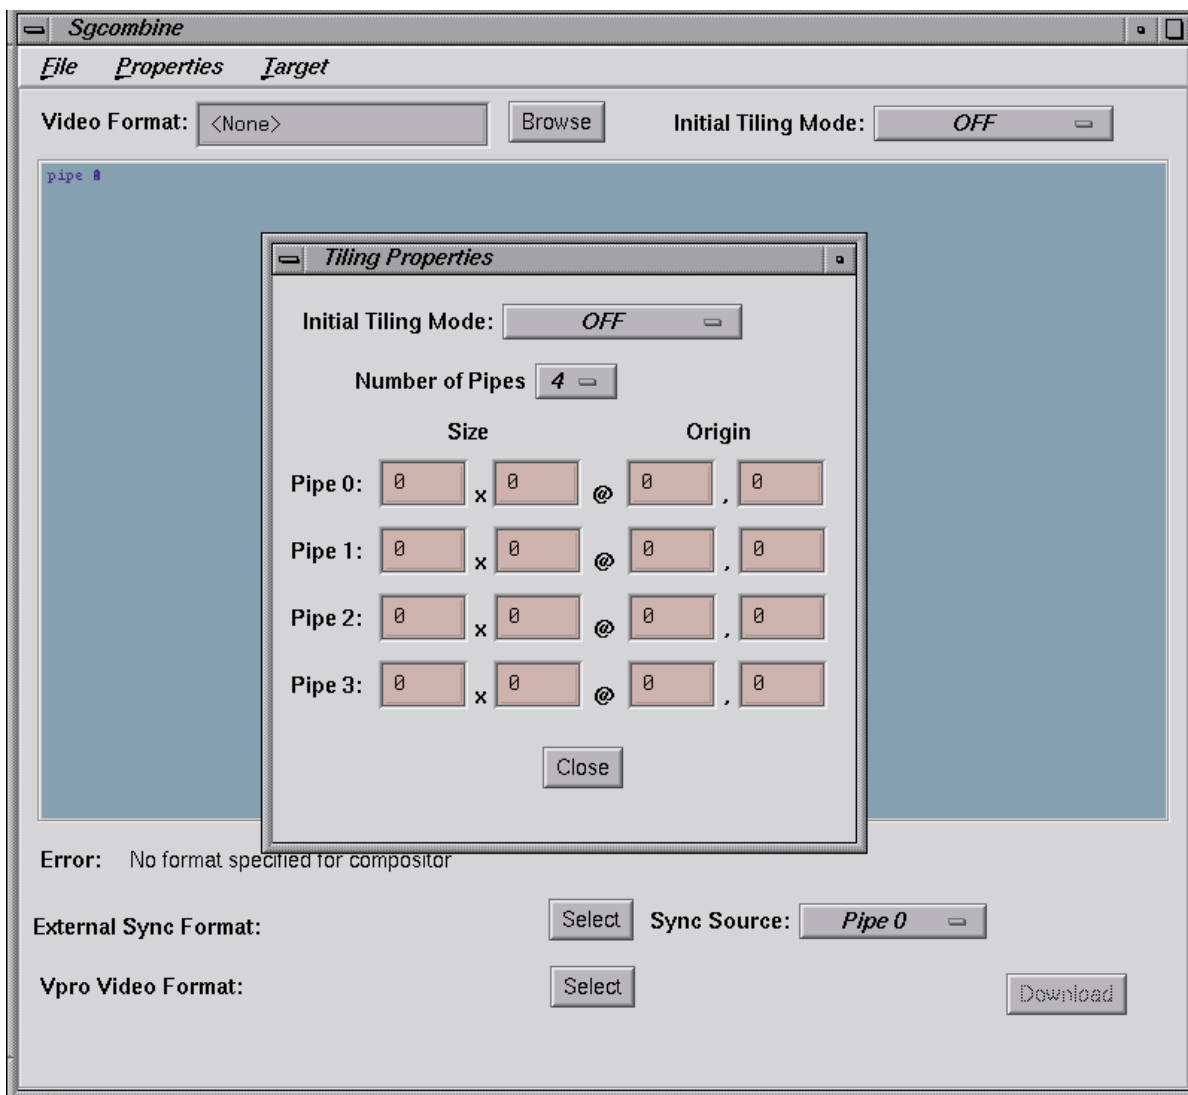

Figure 3-4 Tiling Properties Window
5. From the **Sgcombine** main window, select **Properties**, and then select **Tiling Properties**, to see the **Tiling Properties** window shown in Figure 3-4. Select options as follows: